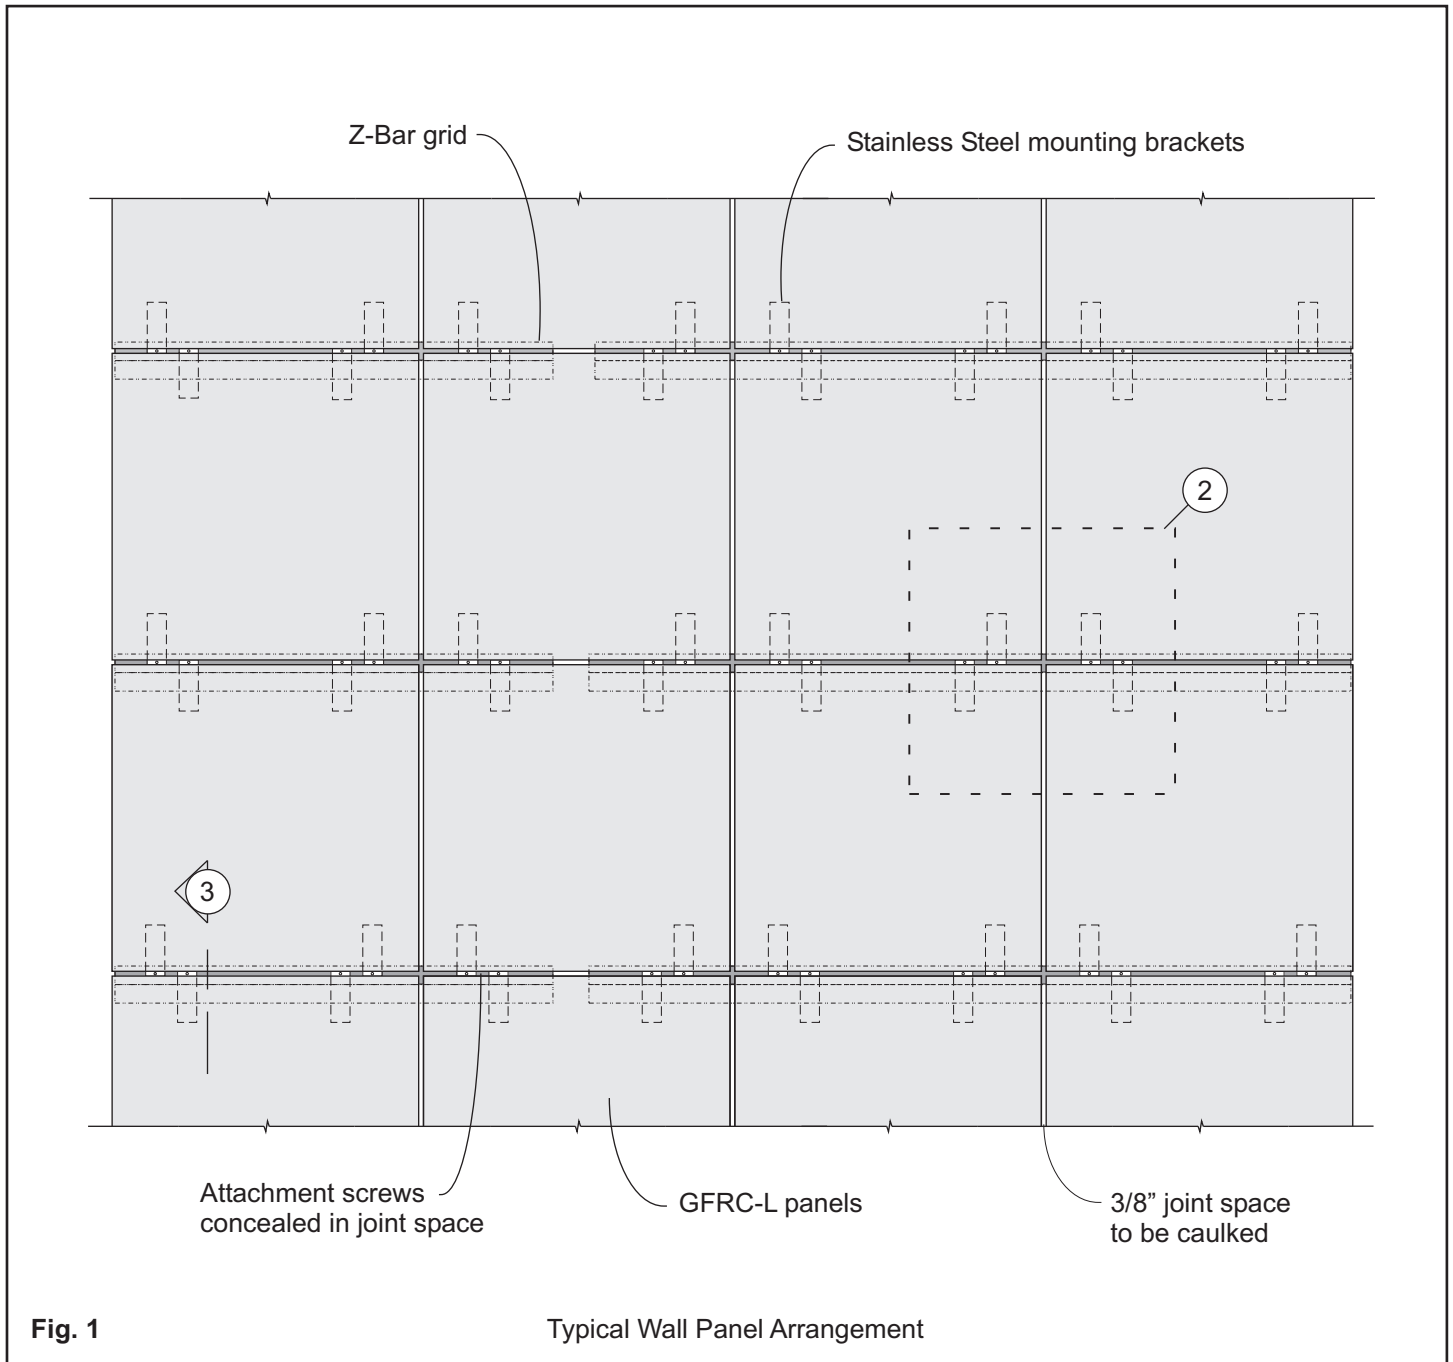

Fig. 1
1. Formglas® GFRC-L parts and panels are installed with concealed fasteners wherever possible. Typically, this is accomplished by using attachment points located between the joint spaces between the GFRC-L parts which will later be filled with a joint sealant. For example, Fig.1 illustrates a simple wall panel arrangement where the attachment points are in the horizontal joint spaces between panels. The GFRC-L panels are supplied with factory attached, heavy gauge, stainless steel mounting brackets. In this example, the back surfaces of the wall panels have 2 upper and 2 lower mounting brackets attached to them that project 3/8" (10mm) beyond the top and bottom edges of the panels. The panel arrangement was pre-
Fig. 2 below is an enlargement of the area marked with dashed lines in Fig. 1 that is identified as item (2). Fig. 2 illustrates an intersection of 4 panels. Note that the upper and lower panel mounting brackets are staggered so that the brackets attached to the upper panels are spaced horizontally apart from the brackets on the lower panels so there is no interference installing subsequent rows of panels.
Fig. 4 is a vertical cross sectional detail of the panels indicated as item (3) of Fig. 1. This illustrates an upper and lower portion of the GFRc-L panels, mounting brackets, Z-Bar and substrate. Both the upper portion of the lower panel and the lower portion of the upper panel are secured to the same horizontal Z-Bar through the same joint space. After the installation is complete a flexible backer rod is placed into the joint space and the joint sealed with an appropriate caulk. See Joint Treatment on page 5 for more details.